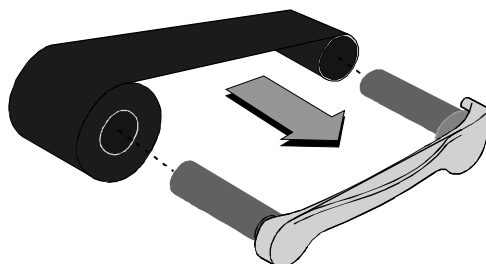

Figure 2-8: Load new print ribbon on the ribbon cartridge
- 3 Slide the full supply roll onto the left ribbon cartridge shaft (see Figure 2-8).
- 4 Slide the empty take-up ribbon spool onto the right ribbon cartridge shaft (which has a gear). Leave very little slack in the ribbon between the ribbon cartridge spools (see Figure 2-8).